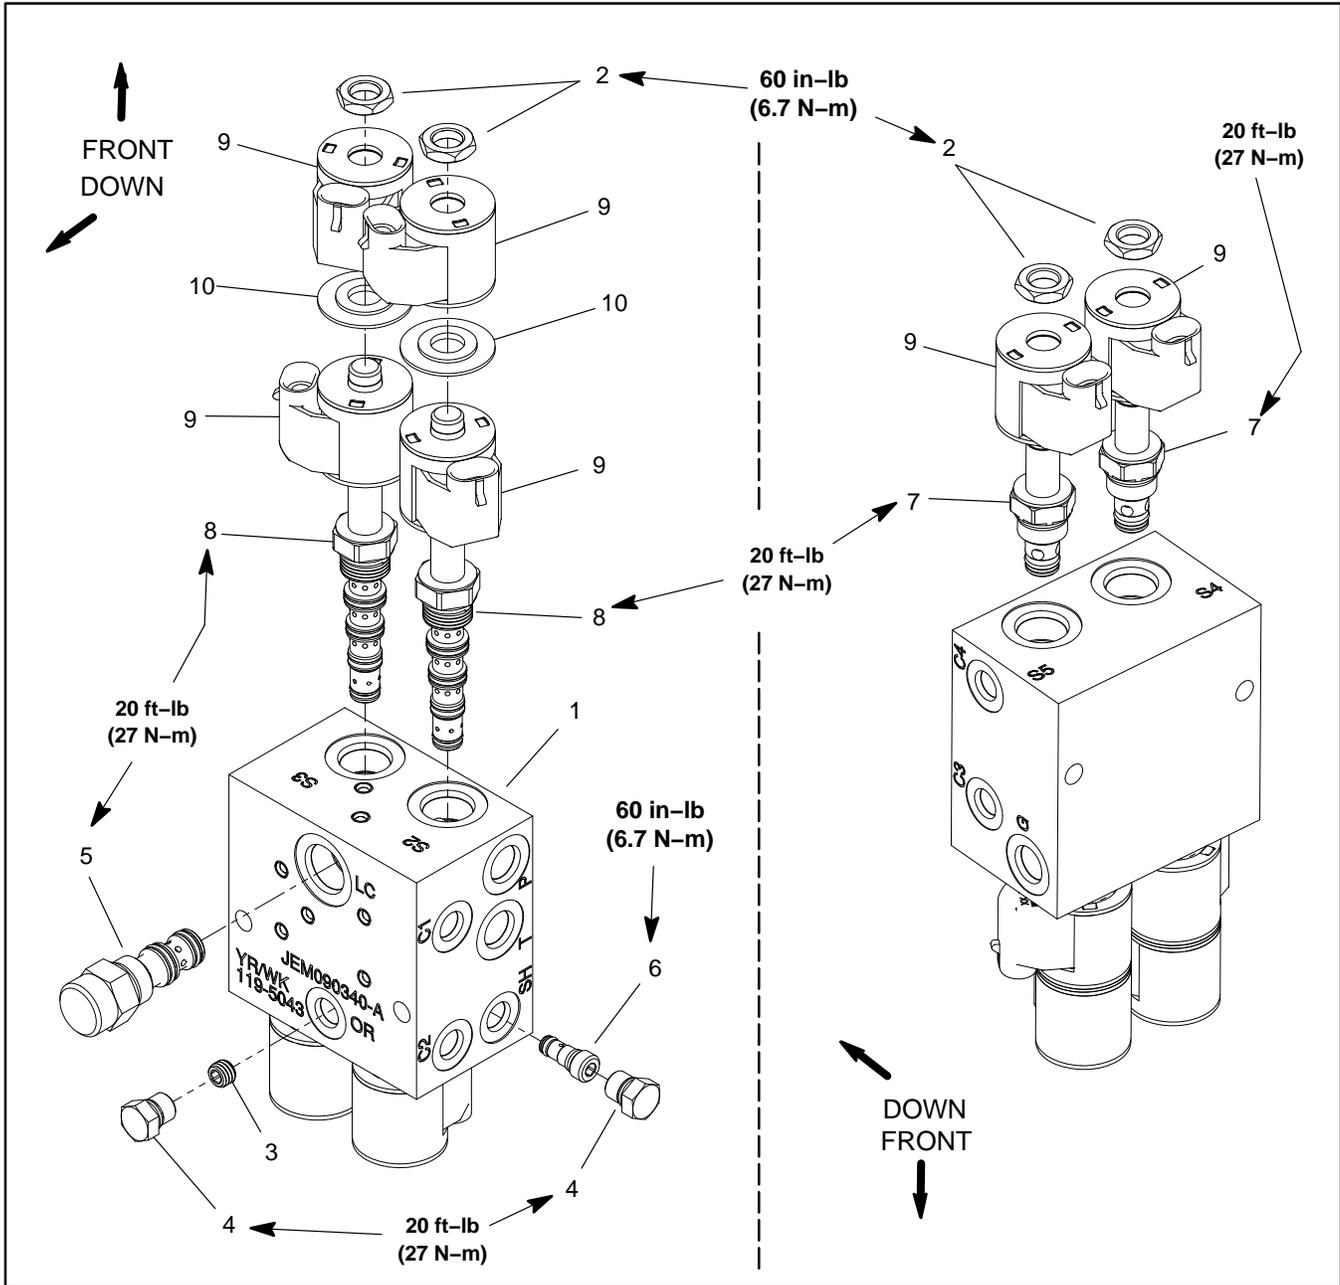
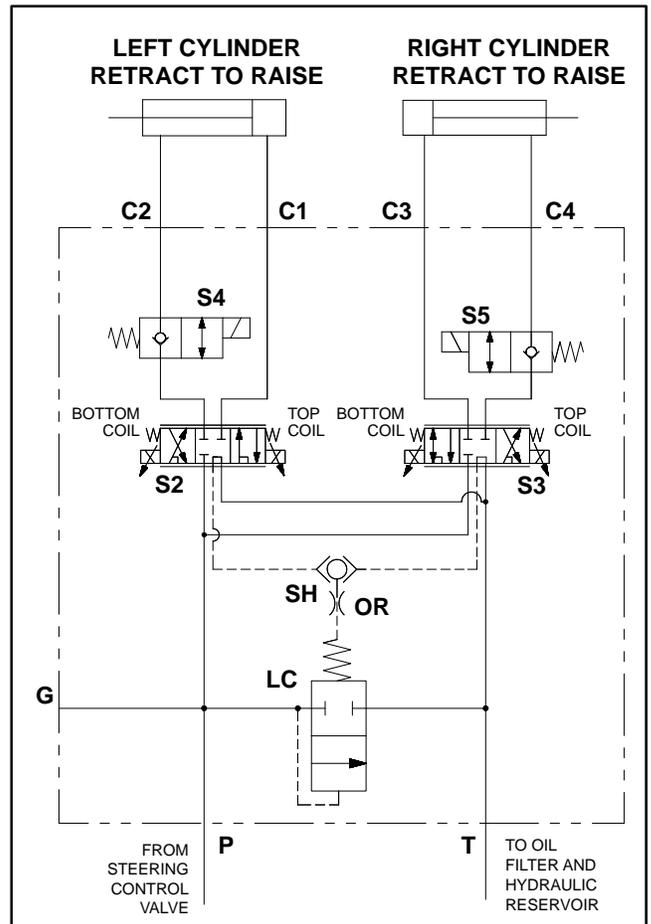

Figure 24
Figure 25
**NOTE:** The ports on the Ultra Sonic Boom System boom lift control manifold are marked for easy identification of components. Example: P is the pump supply connection port and S2 is the location for solenoid valve S2. See Figure 25 to identify the function of the hydraulic lines and cartridge valves at each manifold port.
**NOTE:** The boom lift control manifold includes two (2) zero leak plugs. These plugs have a tapered sealing surface on the plug head that is designed to resist vibration induced plug loosening. The zero leak plugs also have an O-ring as a secondary seal. If zero leak plug removal is necessary, lightly rap the plug head using a punch and hammer before using a wrench to remove the plug; the impact will allow plug removal with less chance of damage to the head of the plug.
**Boom Lift Control Manifold (Fig. 24)**
For boom lift manifold cartridge valve service procedures, see Cartridge Valve Service in Chapter 4 – Hydraulic System in this manual. Refer to Figure 24 for manifold cartridge valve and plug installation torque.
For solenoid valve coil testing procedures, see Hydraulic Solenoid Valve Coils in Chapter 5 – Electrical System in this manual. Refer to Figure 24 for solenoid valve coil installation torque.